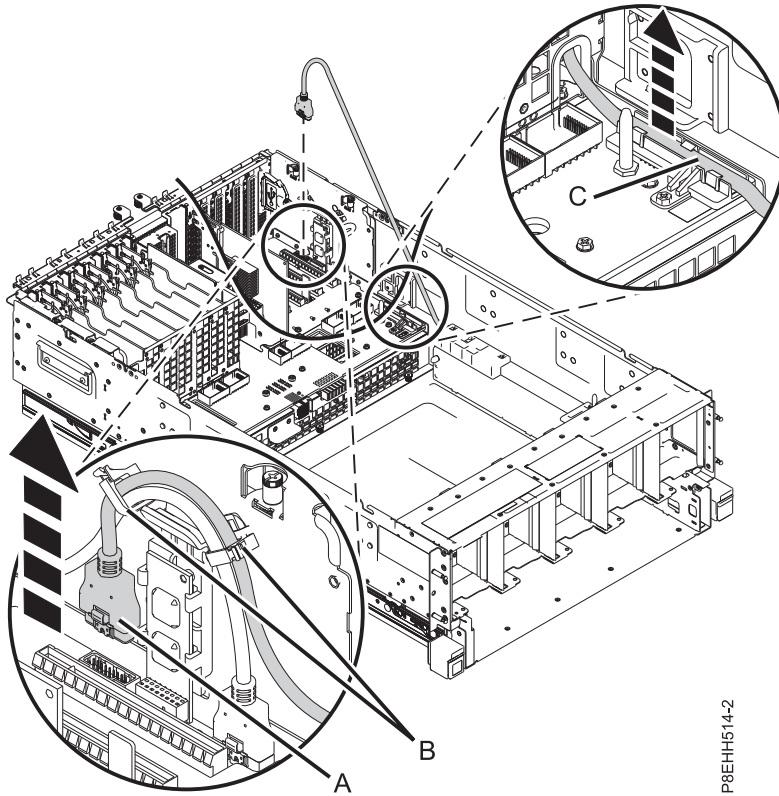

Figure 8. Unplugging the USB cable
- a. Press the latch of the front USB cable (A) and unplug the cable from the I/O backplane. Remove the cable from the retainer clips (B) and (C). Carefully pull the cable out of the I/O backplane. See Figure 8 on page 10.